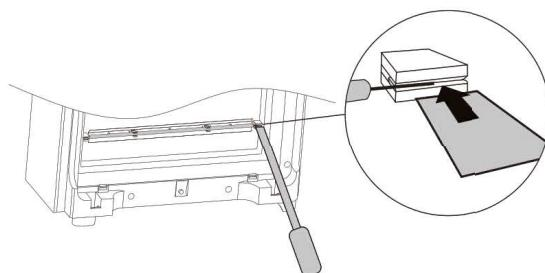

Fig. 11
- Gently open each UV lamp power terminal with a flat screwdriver and gently remove the lamp connector from the terminal (fig. 11)